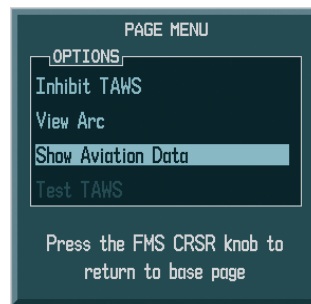

Figure 6-72 TAWS Page Menu
- 2) Press the **MENU** Key (Figure 6-72).